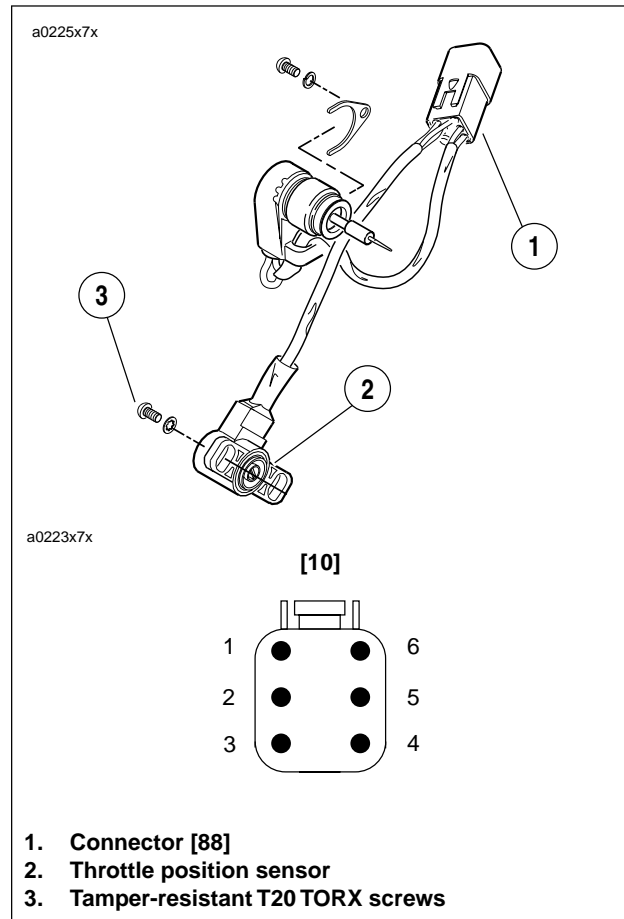

Figure 7-10. Throttle Position Sensor
See Figure 7-10. The throttle position sensor voltage determines which spark advance curve the ignition module selects. The throttle position sensor (TP Sensor) is located on the carburetor. The TP Sensor is not repairable. Replace the unit if it fails.
- f. Turn ignition switch to ON. Using a multimeter, measure voltage between pin 3 (V/W) and pin 5 (BK).
- h. Completely open and close the throttle by rotating the throttle control through its full range of motion. Wide Open Throttle (WOT) should not exceed 3.7V and reading should increase consistently as throttle is opened. If the voltage reading is erratic or the voltage reading at WOT exceeds 3.7V see Figure 7-10. for diagnostic testing.